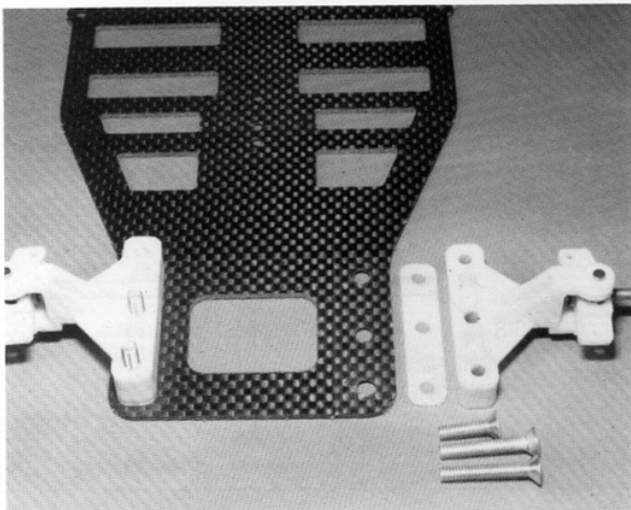

Fig. 7
□ **Fig. 7**—Now we mount the suspension arms to the chassis. The spacer goes on the chassis first, then the castor shim goes on (not shown in photo), and then the suspension arm goes on top of the shim. Make sure you've got the left hand side of the arm on the left hand side of the car and right hand side arm on the right side.